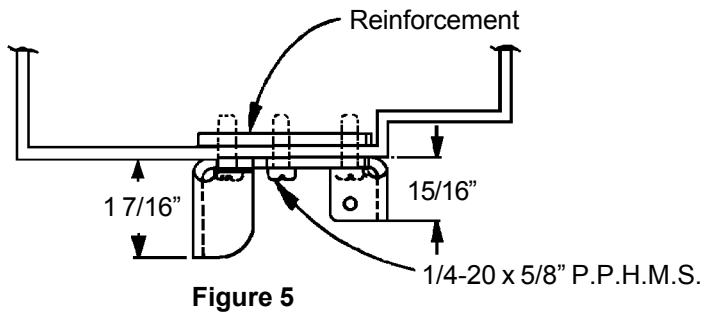

Figure 5
2. Line up top mullion fitting with center of door opening and flush with closed doors as shown in Figure 3 and install. See Figures 5, 6, and 7 (reverse side) for optional frame conditions.